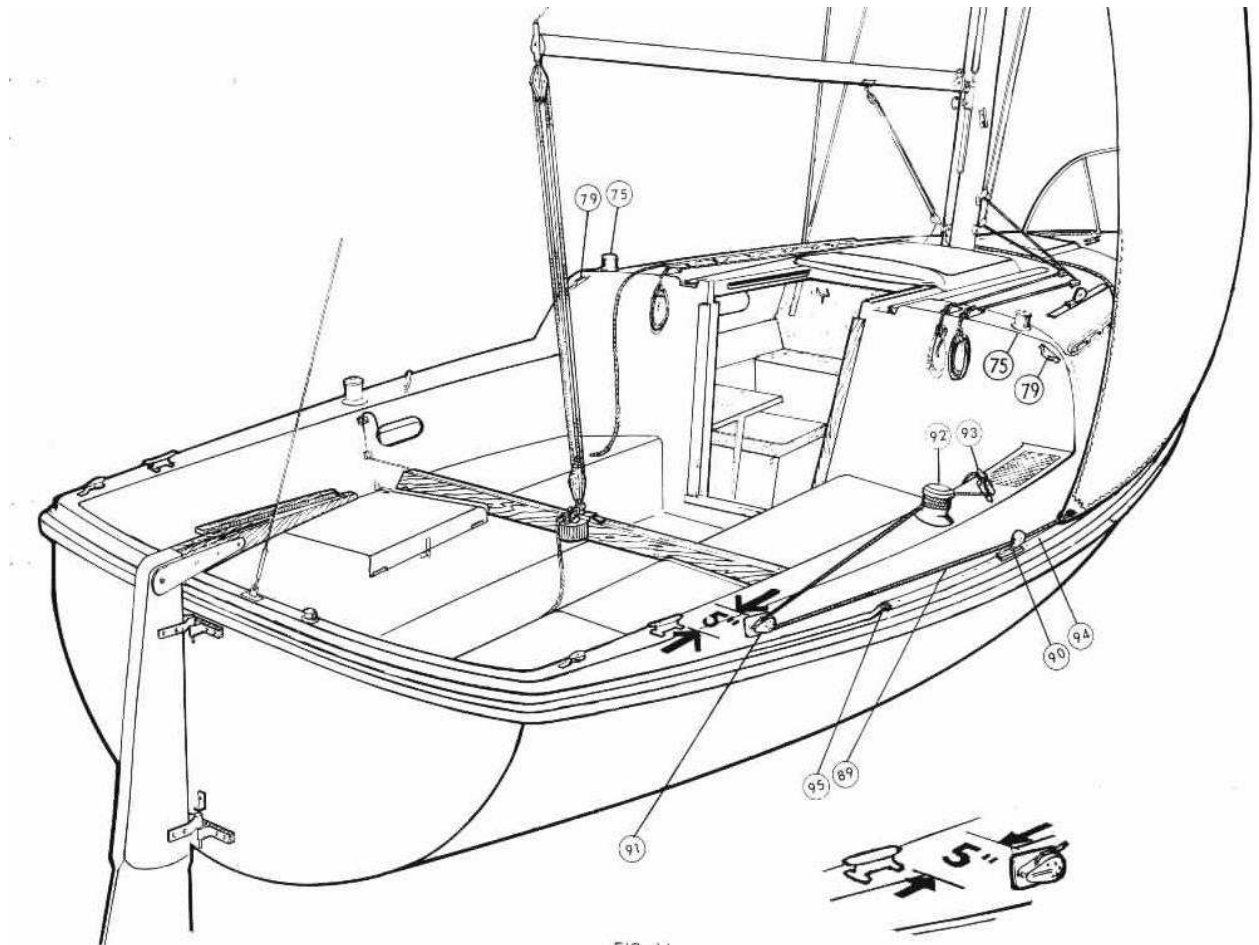

FIG. 14
The genoa gear as shown in Figure 14 may be installed as follows:
Snubbing winches (75) as shown in Figure 14. & Figure 19 make the handling of the working jib much easier in heavier winds, especially for a light-weight crew. They are also essential for spinnaker handling in anything but light winds.
Gibb Snubbing Winches (75) shown in Figure 14. & Figure 19 are now supplied as standard equipment. When installed at the factory, they are placed 12" outboard from the edge of the main companionway hatch coaming instead of 19" as shown in Figure 19..